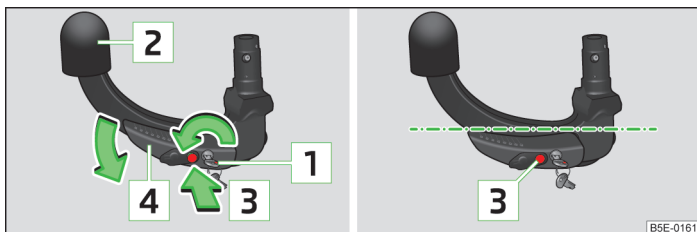

Fig. 147 Setting the ready position/ready position
- Turn the key so that its red mark » Fig. 147 becomes visible.